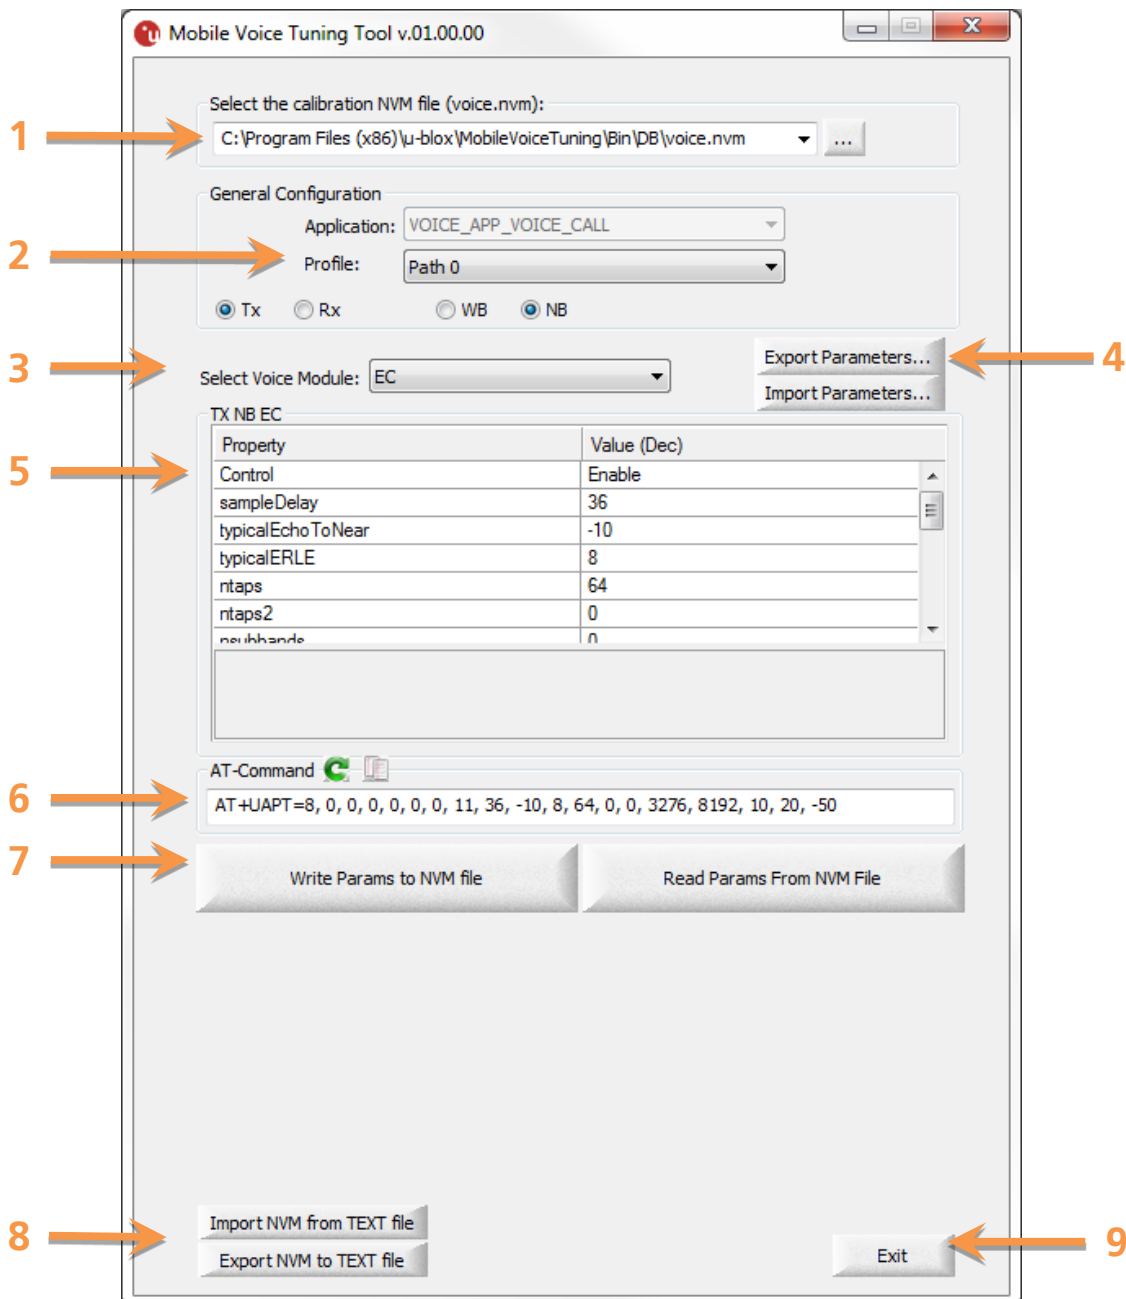

Figure 1: Mobile Voice Tuning Tool - Main Panel
Figure 1 shows the Mobile Voice Tuning (MVT) tool's main panel.
When closing this MATLAB® window the final equalizer Taps are automatically saved. Their values are displayed in the MVT tool's Property and Value table (item 5 in Figure 1). You can also Save the equalizer's Taps to a file by using the **Save...>Save Equalizer Taps to File** menu option (1).